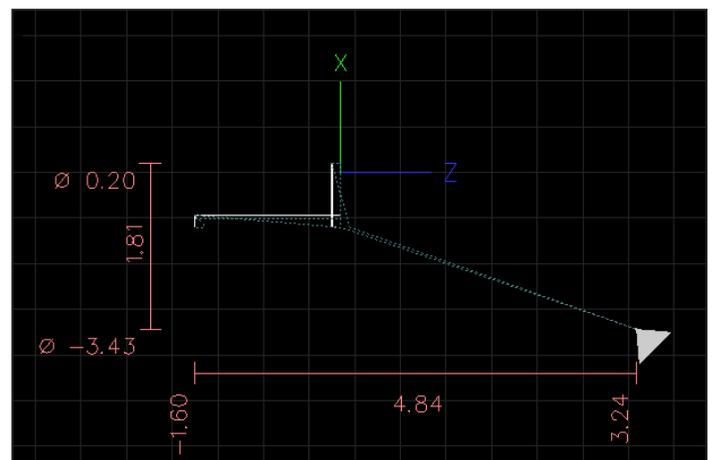

Figure 4.23
2. Append this code to the file as you did at the end of the *Operation 2* section earlier in this chapter. The tool path should now resemble **Figure 4.23**.